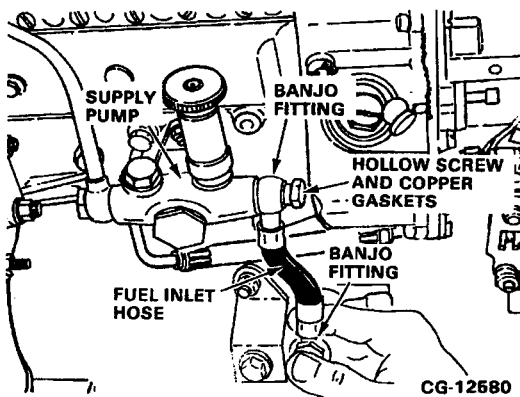

Figure 11.134. Install Fuel Inlet Tube (Fuel Filter to Supply Pump) (Current Production)
11. Install the fuel inlet (fuel filter to supply pump) hose or tube as follows: (Refer to Figures 11.134 and 11.135)